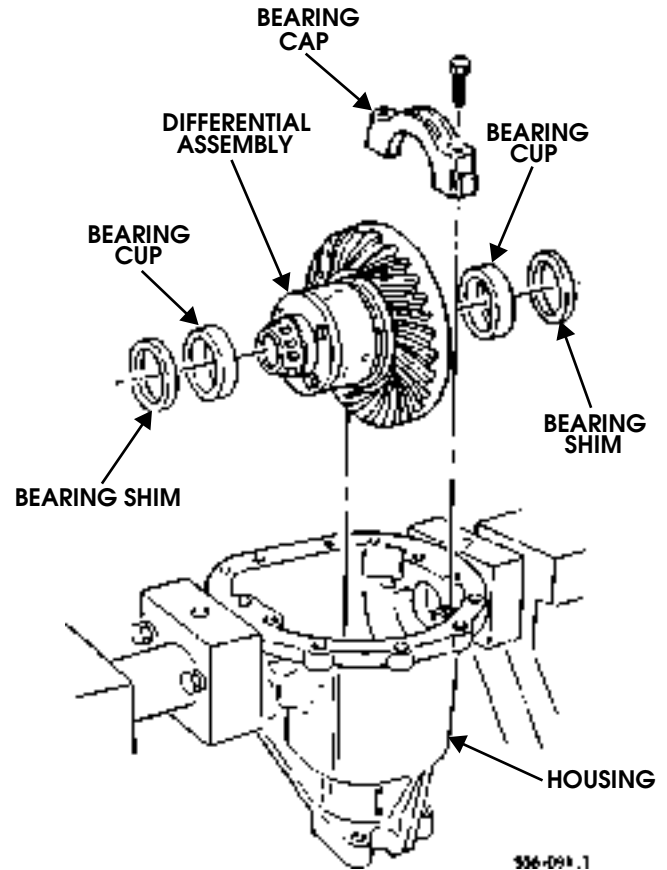

Figure 9-96: Differential Assembly Mounting
41. Remove four bolts, two bearing caps, bearing cups, shims, and differential assembly from housing (Figure 9-96).
47. Install side bearing shims, previously selected to remove differential assembly side play, slide bearing cups, and differential assembly in housing (Figure 9-96).
52. Remove four bolts, two bearing caps, bearing cups, shims, and differential assembly from housing (Figure 9-96).
59. Preload differential side bearings by increasing shim thickness at each side of differential assembly by 0.004 in. (0.10 mm) for a total bearing preload of 0.008 in. (0.20 mm) (Figure 9-96).
60. Lubricate side bearings with gear oil and install differential assembly, bearing cups, shims, and bearing caps in housing and secure with four bolts (Figure 9-96).